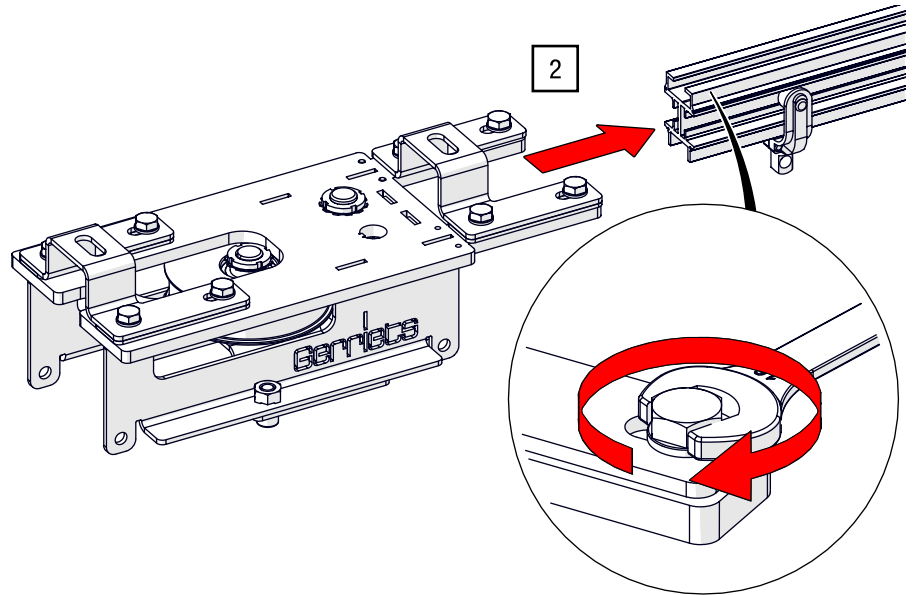

Fig. 70: BELT-TRACK deflection unit – Install deflection unit with belt tensioner
2. Slide the web into the track profile and then tighten the screws with an open-ended spanner AF 17 (see Fig. 70).